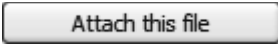

**Figure 3–34**
9. In the File Link Settings dialog box, in the Combine Entities drop-down list select **By Revit Category**. In the *Objects* area, clear **Lights** and **Daylight System**. Select **Create Helper at Model Origin** and **Cameras**. In the *Geometry* area, set *Curved Objects Detail* to **6**. Verify that both **Keep 3ds Max scene materials parameters on reload** and **Keep 3ds Max scene material assignments on reload** are cleared, as shown in Figure 3–34. Click .